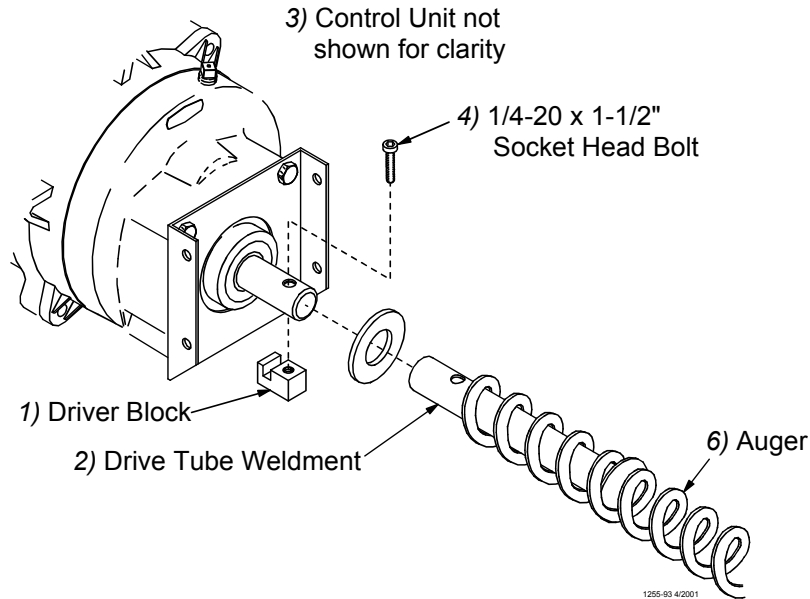

**Figure 46. Assemble the Anchor Bracket to the Power Unit/Gearhead**
3. Install the Anchor Bracket to the Power Unit/Gearhead, as shown in **Figure 46**, with the included 5/16-18 Bolts.